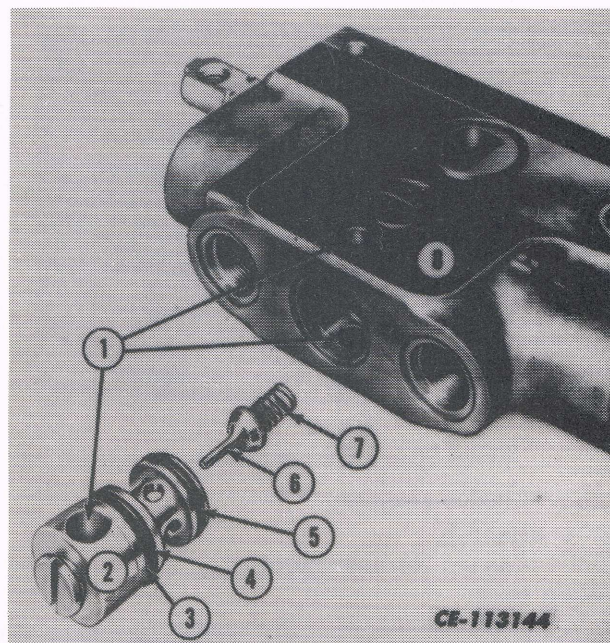

Fig. 7
IMPORTANT: The back-up washer (3) must face toward the outside of each port. See Fig. 7.
6. Install the check poppet assembly with new "O" rings and a new back-up washer. Use petroleum jelly to hold the assembly together during installation and turn the retainer seat (2) to align the bolt hole (1) in the valve body (8). See Fig. 7.